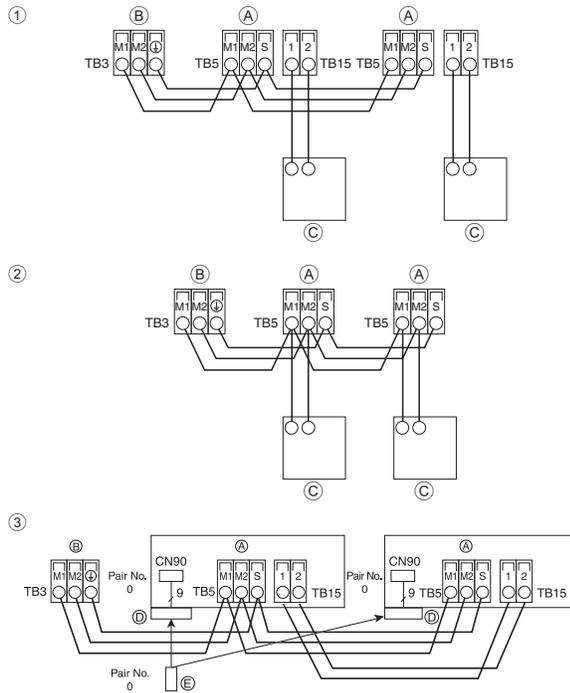
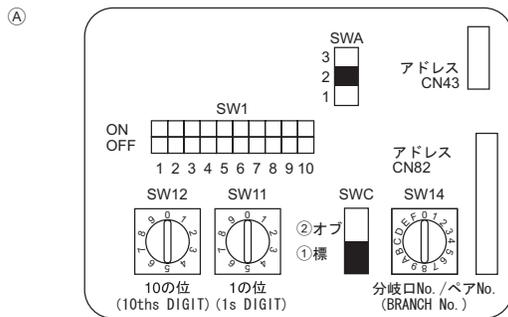

Fig. 5-4
Fig. 5-5
5.4. Connecting remote controller, indoor and outdoor transmission cables (Fig. 5-4)
- ① MA Remote controller
- ② M-NET Remote controller
- ③ Wireless remote controller (When installing wireless signal receiver)
5.5. Setting addresses (Fig. 5-5)